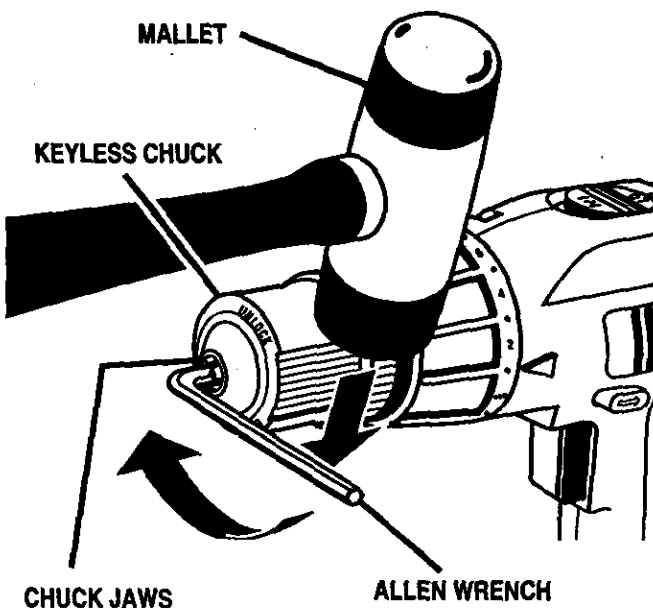

Fig. 14
See Figures 14, 15, and 16.
- Tap the allen wrench sharply with a mallet in a clockwise direction. See Figure 14. This will loosen the screw in the chuck for easy removal.